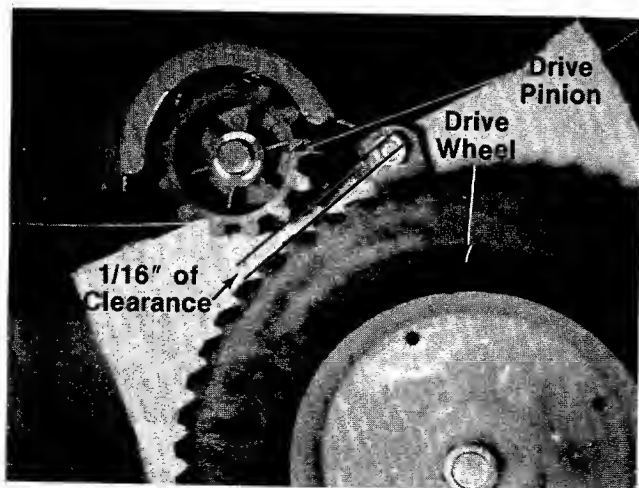

FIGURE 12.
21. Check the clutch rod adjustment as follows. The drive pinions should be approximately 1/16" from the drive wheels when the clutch is disengaged (handle is **not** pushed forward). See figure 12. When the handle is lifted, the drive pinions should mesh with the gear tread tires.
22. Press the plastic plug (G) into the hole in the top rear of the deck. Refer to illustration on page 16, reference number 79.